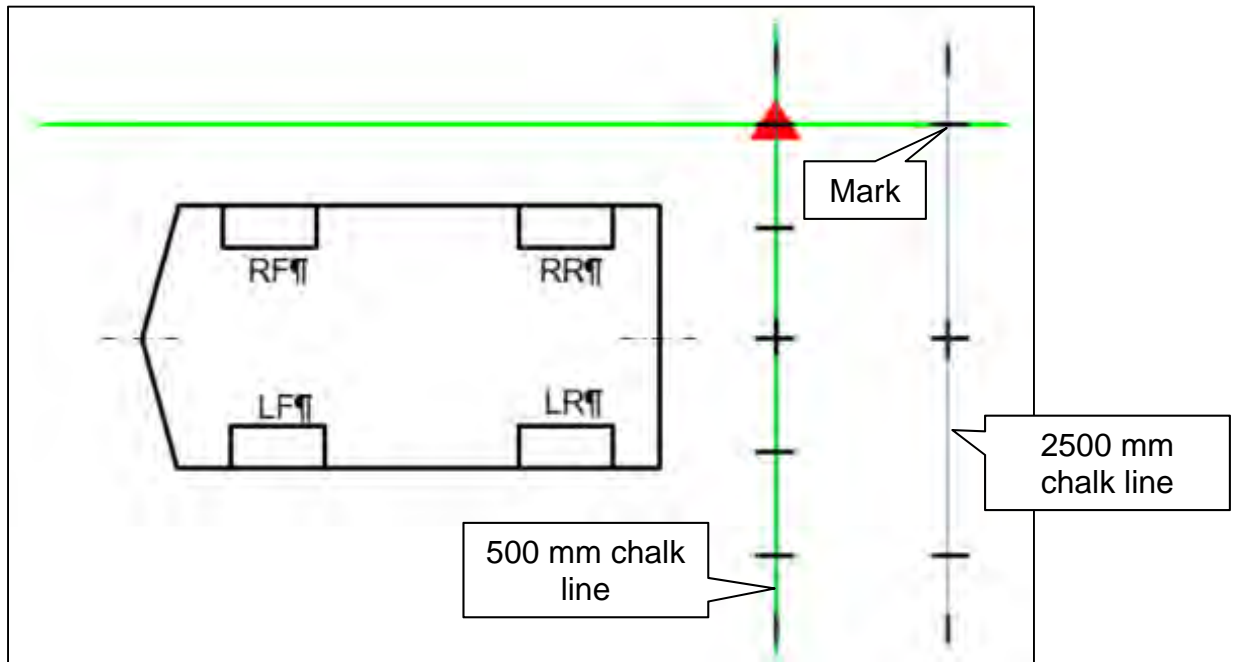
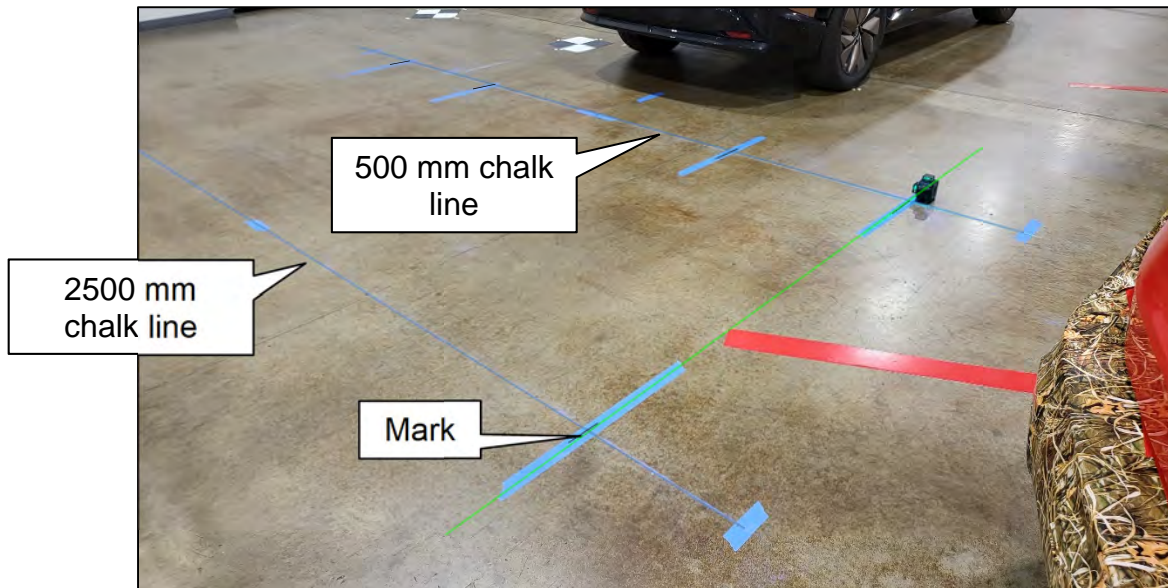

Figure 88
Figure 89
60. Move the laser level to the position shown in Figure 88, and then make a mark on the 2500 mm chalk line, as shown in Figure 88 and Figure 89.